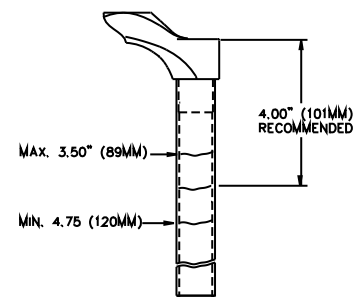

FIGURE 7: TPC OIL LEVEL
To check the oil level remove only the compression damping assembly located in the top of the left leg. Leave the right side compression stack (adjuster, MCU, spring assembly) in place to keep the fork fully extended. Use a tape measure or "dip stick" to determine the oil level. Oil level should be between 3.5" (89MM) and 4.75" (120MM) below the crown where the damping assembly screws in. The recommended level is 4.00" (101MM). It is recommended that you replace your oil at least once during the season, twice if it has been contaminated with dirt, mud, or other foreign substance. Use SAE 5WT Maxima fork oil or equivalent. See Figure 7.
4. For SPYDER R only, Fill left leg with oil. Refer to Figure: 7 for recommended oil level.